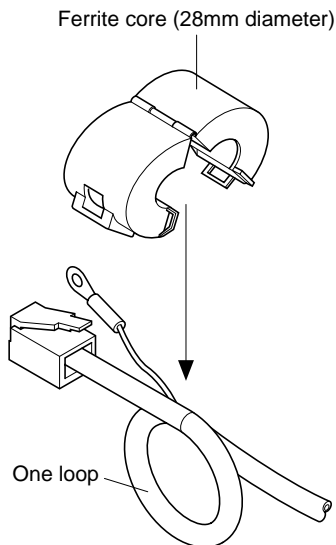

Fig. 3-1
- The ferrite core is normally packed so it is opened, as shown in Fig. 3-1.
- Clamp the ferrite core onto the peripheral unit cable, looping the cable as shown in Fig. 3-1.